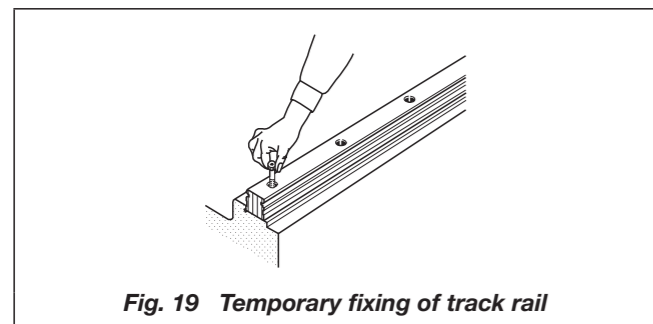

Fig. 19 Temporary fixing of track rail
- Correctly fit the reference mounting surface of Linear Way I track rail onto the mating reference mounting surface of the bed, and temporarily fix the track rail with mounting bolts. (See Fig. 19.)